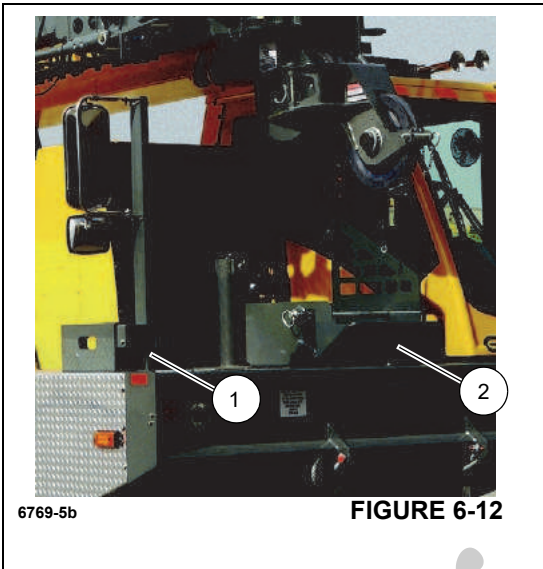

FIGURE 6-12
The hook block or overhaul ball can also be stowed in trays next to the carrier cab or stowed behind the boom rest. If using the stowage area behind the boom rest, the operator will need to supply the appropriate tie-down straps. The overhaul ball stowage tray is shown in (1), (Figure 6-12) and the hook block tray (2) in (Figure 6-12).